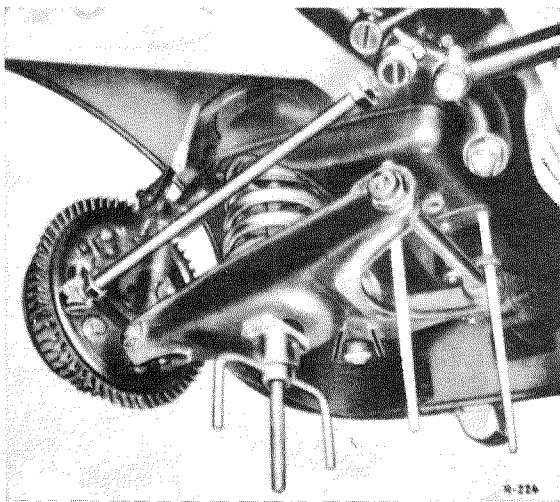

Fig. 33 — 2/3
6. Then unscrew two of the screws which fix the lower control arm pivot pin (one screw at the front on the inside, and one screw at the rear on the outside, or vice versa) and screw in in their place the two Guides 120 589 01 31 (see Fig. 33 — 2/3).